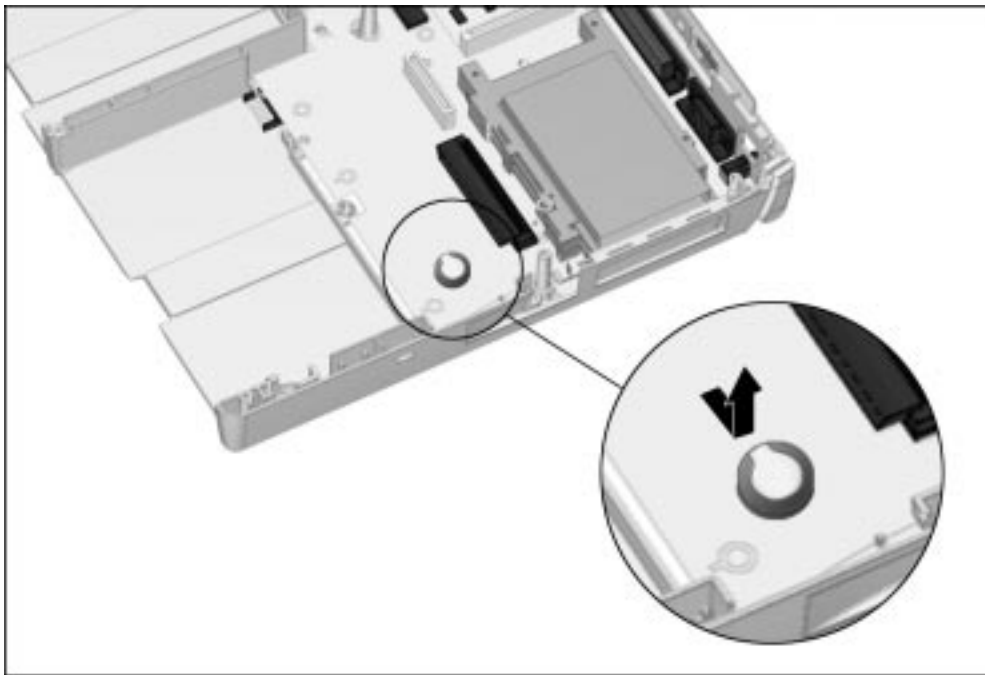

Figure 5-44. Removing the Lithium Disc Cell Battery
7. Use the connector removal tool to push the left edge of the battery to the right and lift it out of the clip (Figure 5-44).